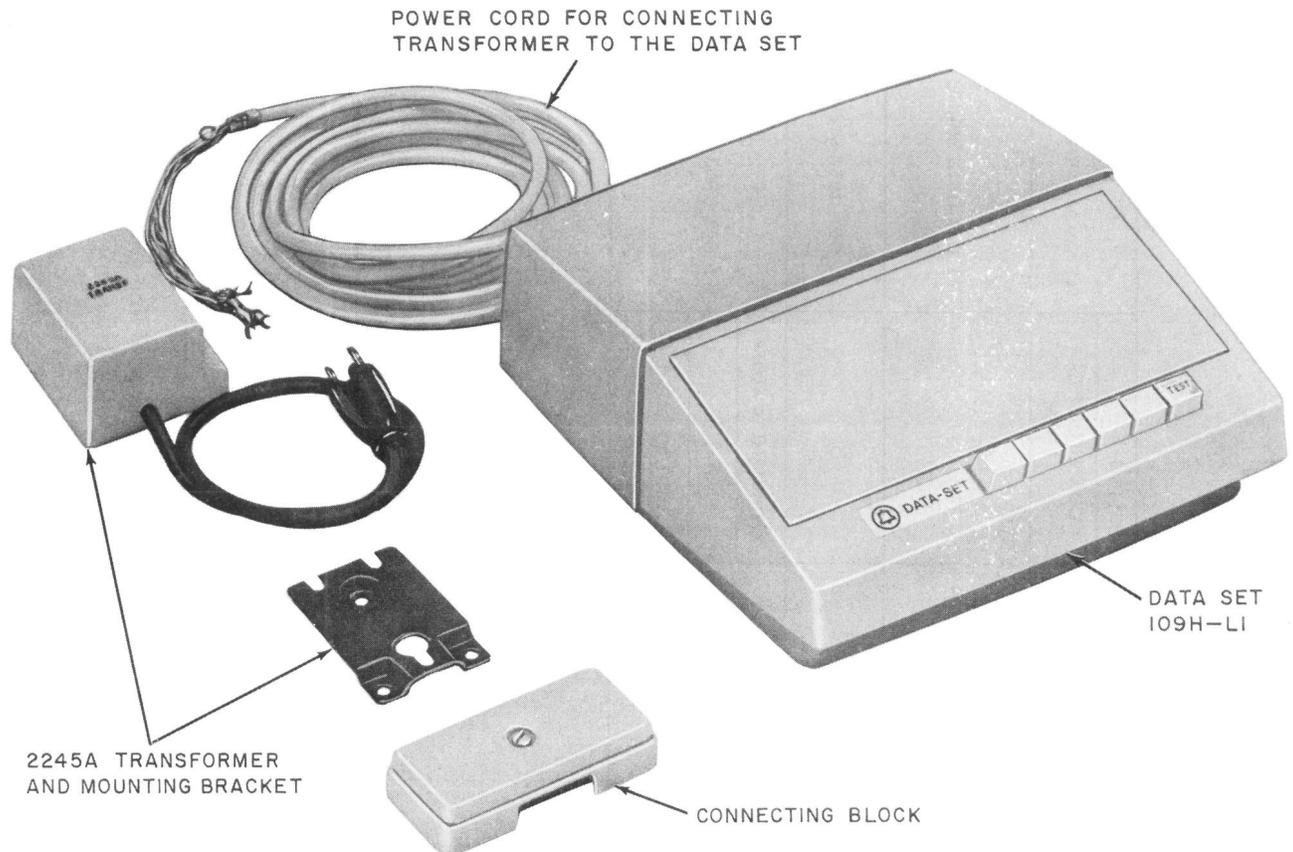

Fig. 3—Data Set 109H-L1—Accessories
1.05 The customer must furnish a 117-volt 60-Hz, 3-wire grounding type power receptacle that is not under control of a switch. The data set power is supplied by a 2245A transformer and cord that is plugged into the customer-supplied power receptacle. Figure 3 shows the 2245A transformer, transformer mounting bracket, 44A connecting block, and data set 109H-L1.